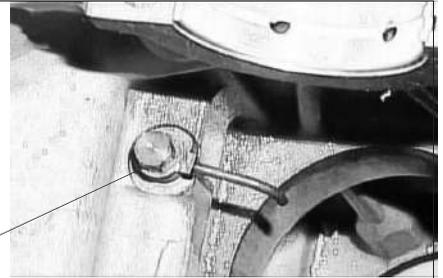

Fig 5-1 Cooling Nozzle
1.1 For some cylinders with piston cooling nozzle, when installing, the junction surface of the nozzle should be smooth so as to prevent pressure oil leakage. Tighten up the washer and hollow screw (see Fig 5-1).